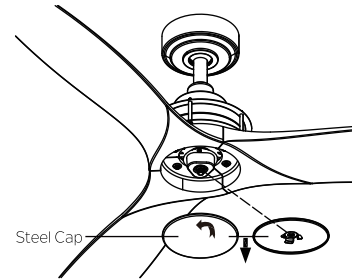

Fig. 21
Step 1. Remove the steel cap by turning the steel cap in a counter clockwise direction.(Fig.21)